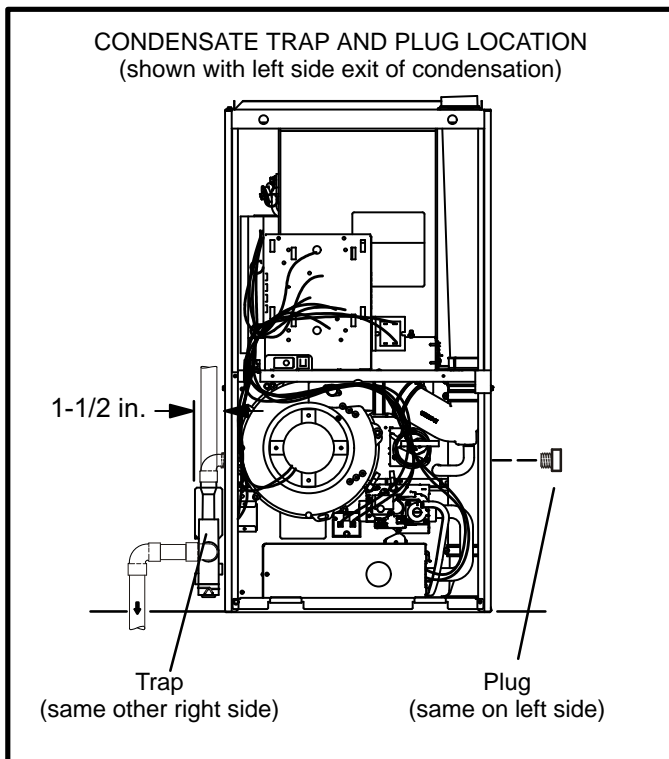

FIGURE 38
This unit is designed for either right- or left-side exit of condensate piping. Refer to figures 38 and 40 for condensate trap locations.
- 2 - For furnaces with a 1/2" drain connection use a 3/8 allen wrench and remove plug (figure 38) from the cold end header box at the appropriate location on the side of the unit. Install field-provided 1/2 NPT male fitting into cold end header box. For furnaces with a 3/4" drain connection use a large flat head screw driver or a 1/2" drive socket extension and remove plug. Install provided 3/4 NPT street elbow fitting into cold end header box. Use Teflon tape or appropriate pipe dope.